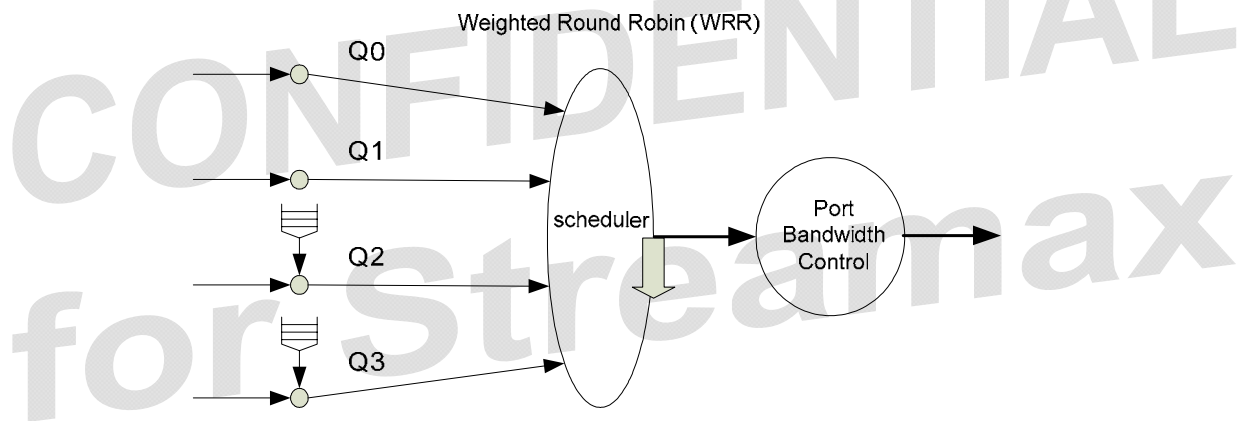

Figure 20. Packet-Scheduling Diagram
- Type I leaky bucket. This specifies the average rate of one queue (see Figure 20; only Q2 and Q3 have leaky bucket; Q0 and Q1 do not). The queue rate can be configured from 0kbps to the line rate in steps of 64kbps
In addition, the RTL8306M can select one of the two sets of packet-scheduling configurations according to the packet-scheduling mode. Figure 20 shows the RTL8306M packet-scheduling diagram.